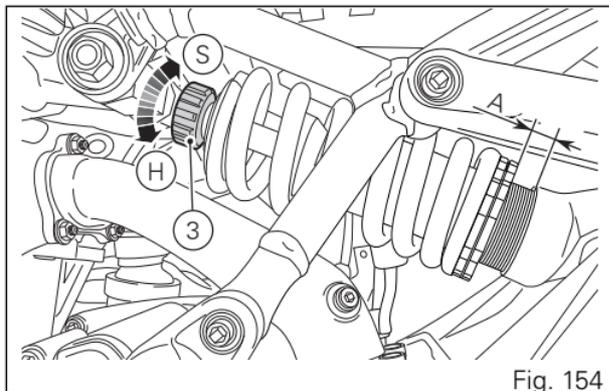

Fig. 154
- rebound: loosen adjuster (3, Fig. 154) by 14 clicks (from fully closed position);
- spring preload: Position the ring nuts at a distance (A, Fig. 154) from the endcap of 19 mm (0.75 in).